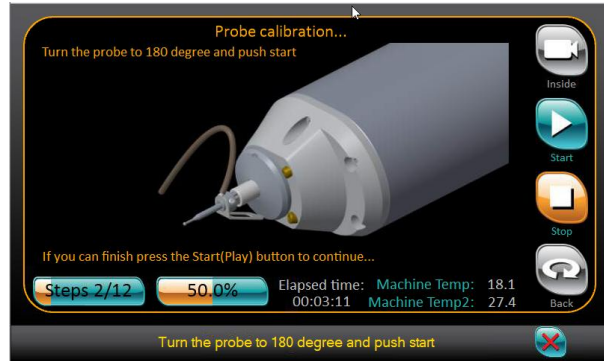

Figure 36 TouchProbe in 180° position.
12. Turn the TouchProbe 180° around and put the positioning pin in the bottom slot **[Figure 36]**, then press **Start**.